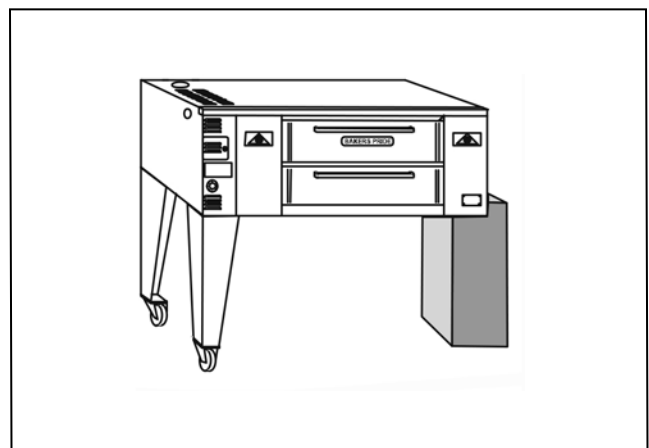

Figure 6
- c) Using proper lifting equipment, lower the oven from its back to its bottom. Lift the unit and set on stand. (See Fig.6).